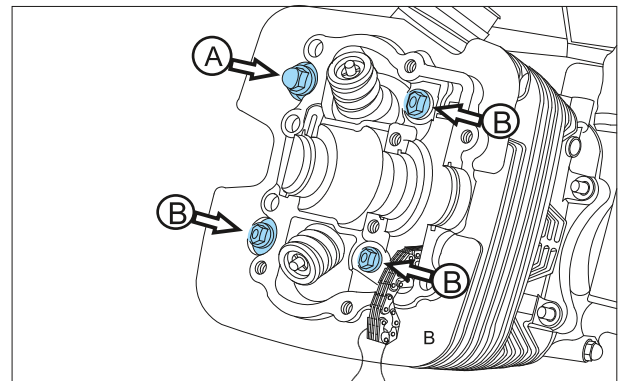

Fig. 3.152
- Place one copper washer (gasket cylinder head nut) 8.5x17x2.3 (A) and three nos. plain washers 8.5x18.5x2.3 (B) on crankcase studs 4 nos. Fit a doomed nut on the stud where copper washer is used to prevent oil leakage and 3 nos. Hexagonal flange nut M8 on other three studs. to the cylinder head along with plain washer. Tighten all the four nuts in criss cross pattern to the specified torque. (Fig. 3.152)